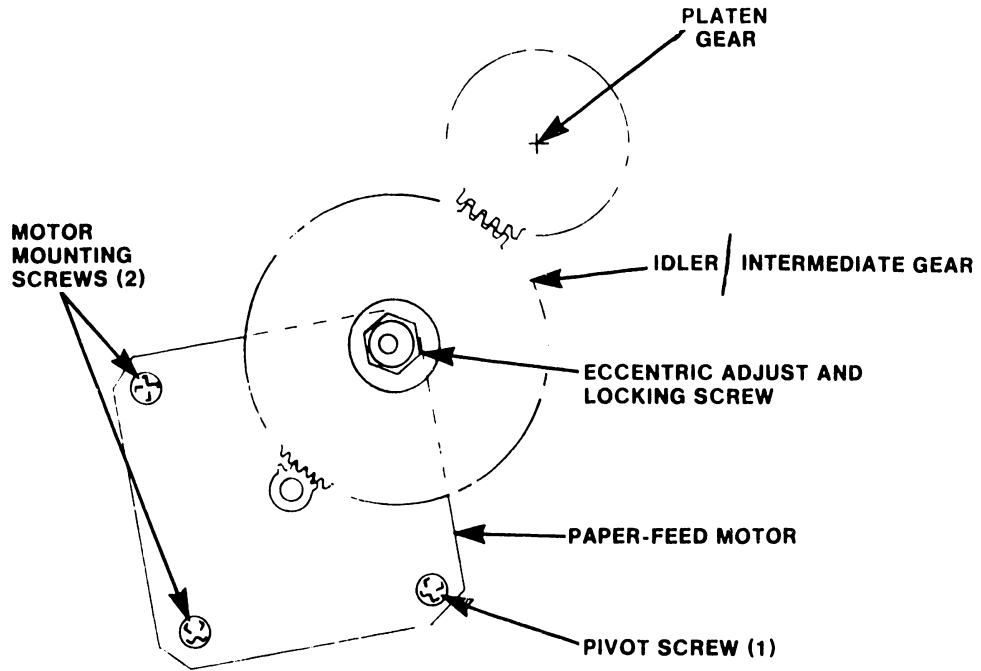

FIGURE 5-17 BACKLASH CHECK AND ALIGNMENT
3. Loosen idler gear locking screw and adjust eccentric screw so that the backlash between the drive gear and idler gear is minimum (see Figure 5-17).
5. Loosen the three motor mounting screws on plate and adjust the backlash between the idler gear and the platen gear (see Figure 5-17).